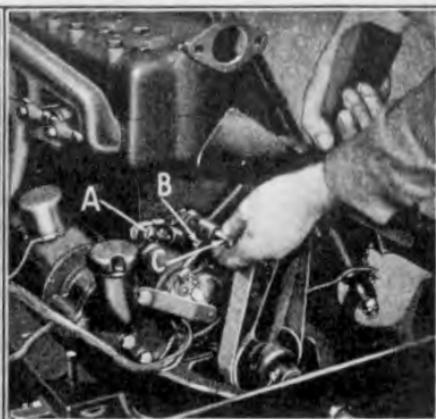

Fig. 101
- (a) Run out fan adjusting screw (See "A" Fig. 101) sufficiently far to prevent lug "B" on fan bracket coming in contact with adjusting screw.